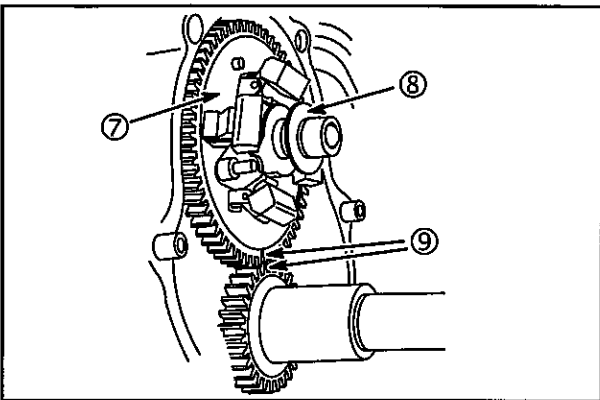

Fig. 26
1. Remove governor spool (8) from camshaft (7), Fig. 26. Discard gasket and O-ring.
2. Rotate crankshaft and camshaft until timing marks (9) align. Remove camshaft.